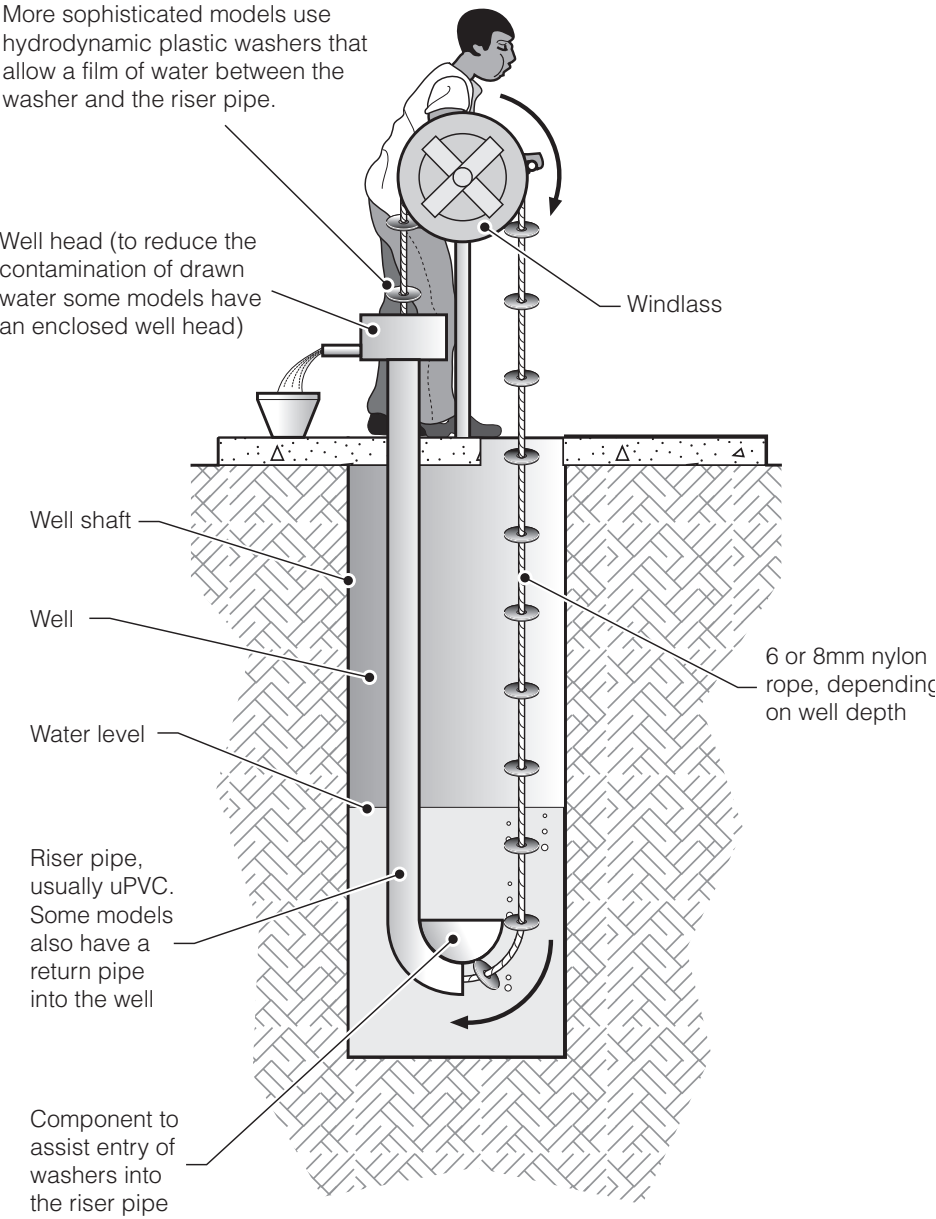

Figure 6.1. Rope and washer pump
- **Continuous rope and washer pumps** (Figure 6.1) (also called chain and washer, Paternoster or Yeddle pumps). These raise water through a series of close fitting washers on a rope or chain that move upward through a pipe. Water is discharged as the washers leave the top of the pipe with the rope continuing to circulate and return the empty washers to the bottom of the well to draw in further water. Such pumps are capable of providing a useful output and can be considered an appropriate and efficient option suitable for installation on any lined well of a diameter and depth typical of a sand-abstraction system. Such devices are generally hand or animal-powered and are capable of drawing water from as much as 20 metres.